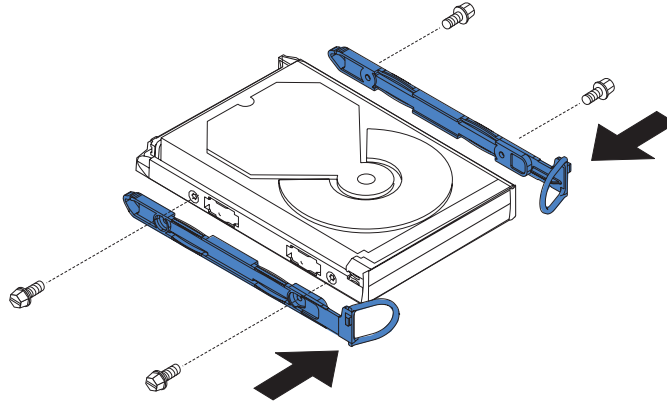

Figure 122. Attaching the rails to the SAN Volume Controller 2145-4F2 disk drive
8. If you are exchanging the disk drive for another, locate the rails and screws that are shipped with the new disk drive. Attach the rails to the disk drive, as shown in Figure 122 on page 395.